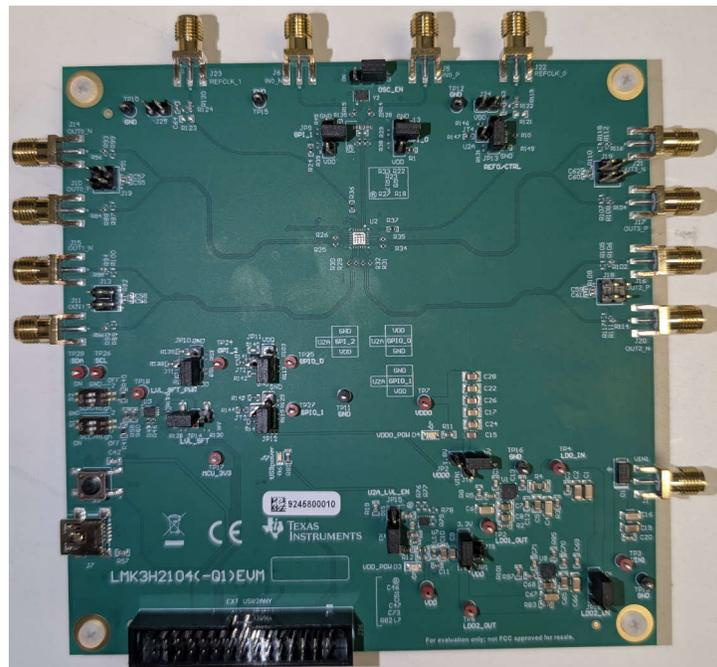

Figure 1-1. LMK3H2104 EVM Default Settings
1. Verify that the jumper configuration matches the default as shown in Figure 1-1 and Table 2-1.